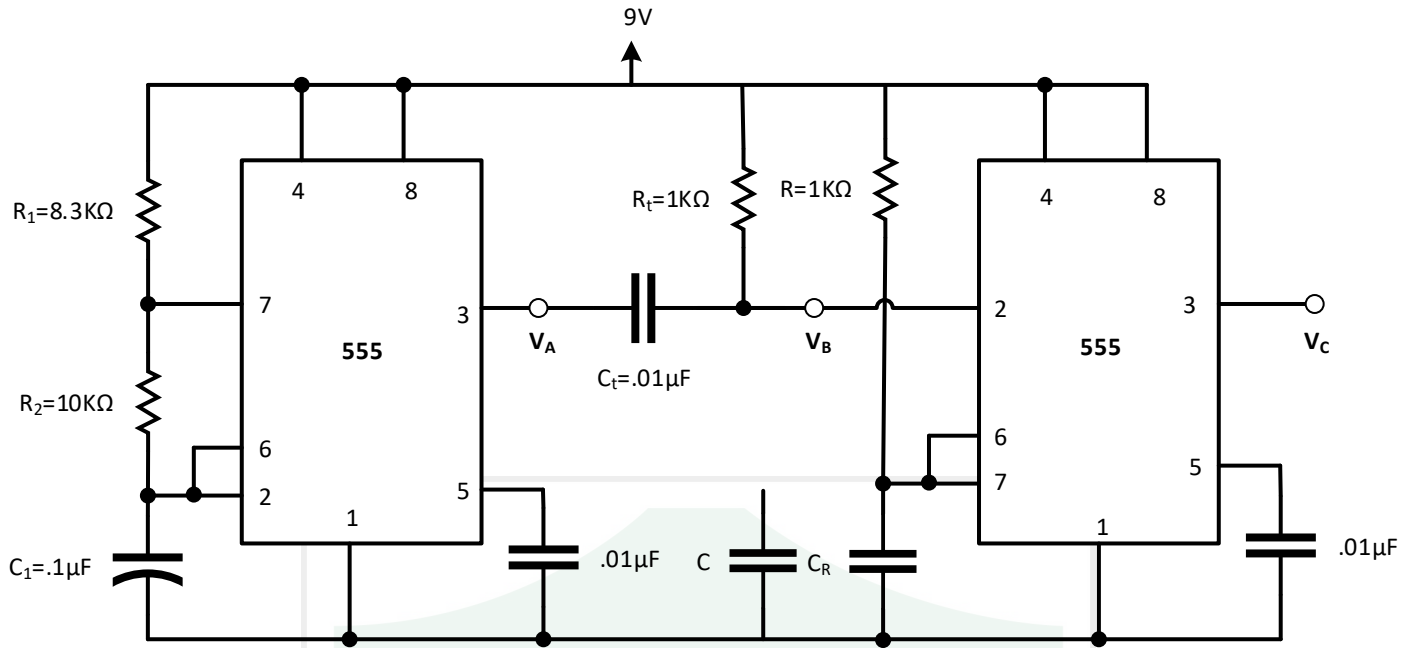

Fig 5: Circuit for capacitance measurement
In this experiment two 555 timers are used. The 555 timer on the left side is operating in astable mode and the right one is in mono-stable mode as shown in Fig 5. For the 555 astable timer the output frequency is given by,
1. Connect the circuit from left up to V_A point as shown in fig 5.
6. Measure the voltage at V_C using multimeter. This is V_1 voltage in eq. (3).
8. Measure the voltage at V_C using multimeter. This is V_2 voltage in eq. (3).